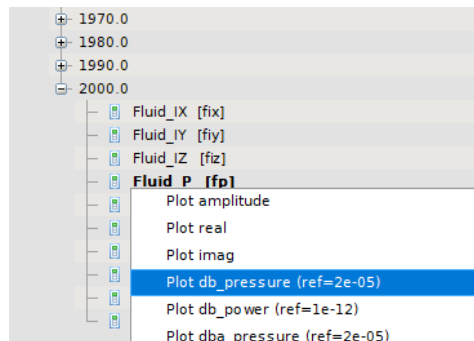

Figure 6.43: Plot the SPL directivity at 2000Hz
- In the reversed set, in the first series of field points, plot the pressure in dB for all the points at 2000Hz (Figure 6.43);